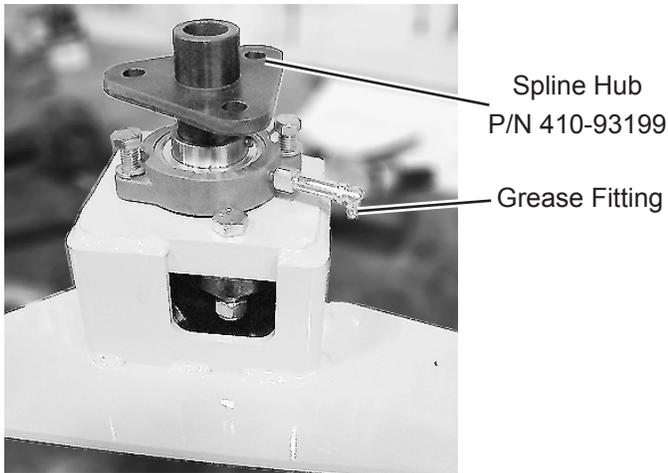

Figure 29
9. Place bearing in position (Figure 29). Insert a hub into the bearing and over the spline shaft of the motor. This step aligns the bearing. If the hub is not used it may be difficult to attach the assembly to the brush core.